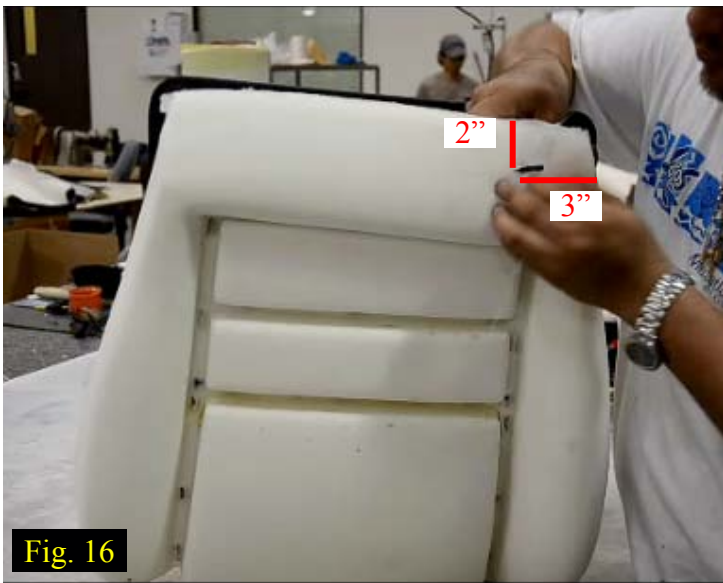

Fig. 16
- b. Insert lumbar support hose through seat bottom foam (Fig. 16).
NOTE: Fig. 16 represents the passenger seat. Driver seat should be position on the opposite side.